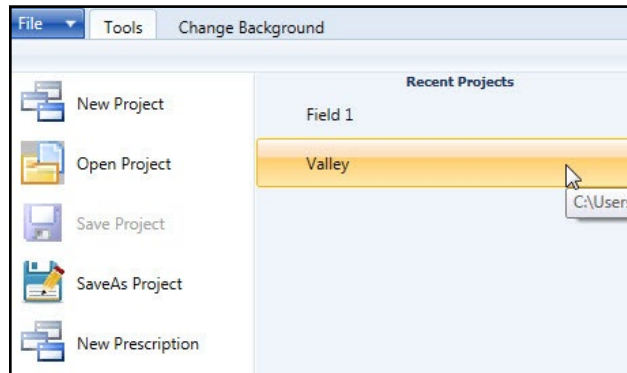

Figure 28-1 Open Recent Project
- Locate the project in the **Recent Projects** list, and click on its name to open it. See Figure 28-1.